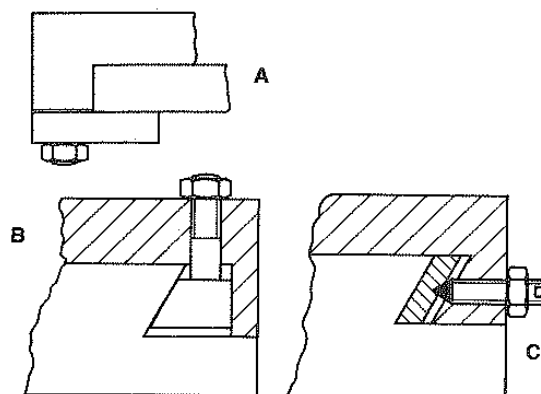

Figure 9.20 (a) Taking up wear in flat machine slide (b) and (c) Taking up wear in dovetail slides
- Wear in machine slides can be taken up as shown in **Figure 9.20**.